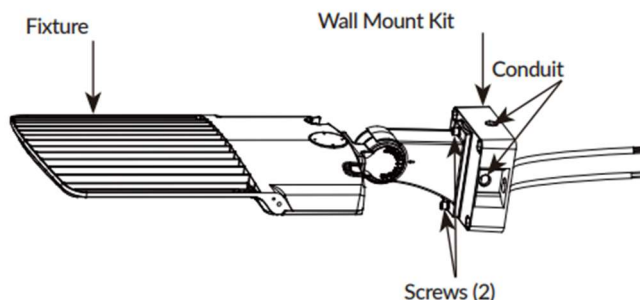

Figure 3
3. Attach fixture to Surface Mount Bracket with two Screws (provided). (Figure 3)
6. If Conduit entry is desired, remove the Conduit cap as shown in Figure 3, feed the supply wires through the Conduit opening, wire the Fixture leads to the supply wires, push all wires into Surface Mount Bracket, and then follow the above mounting instructions